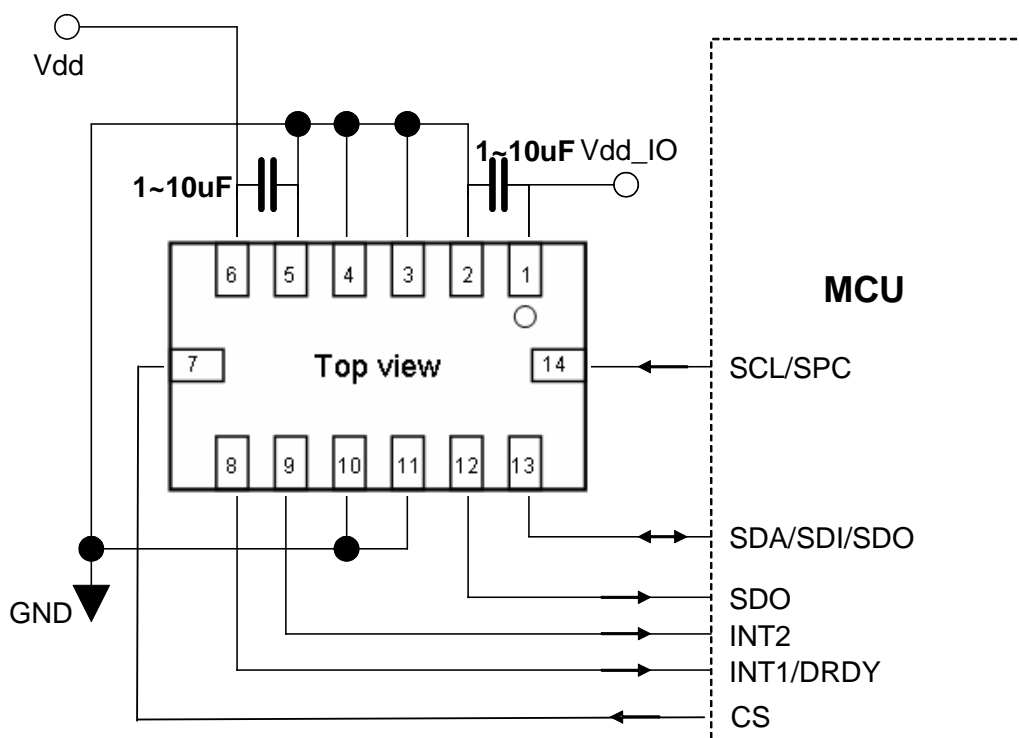

Figure 15. SPI Connection to MCU
The MMA7455L also uses serial peripheral interface communication as a digital communication. The SPI communication is primarily used for synchronous serial communication between a master device and one or more slave devices. See Figure 15 for an example of how to configure one master with one MMA745xL device. The MMA7455L is always operated as a slave device. Typically, the master device would be a microcontroller which would drive the clock (SPC) and chip select (CS) signals.